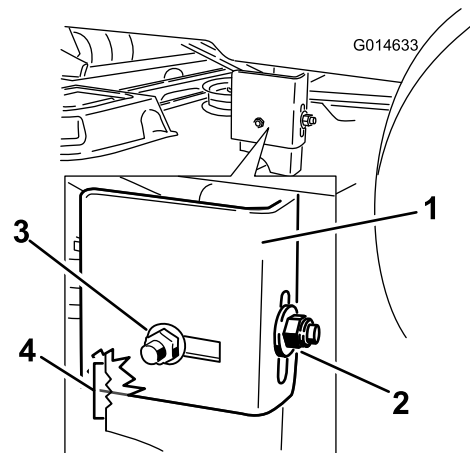

Figure 50
- Loosen the side locking nut on the hanger bracket just enough to allow the hanger to be adjusted (Figure 50). Use the notches on the welded bracket to measure the amount of adjustment. Each notch surface is equivalent to 1/16 of an inch. Adjust the height of the mower deck to the desired height.
the new position (Figure 50). Tighten the rear locking nut on the hanger bracket.